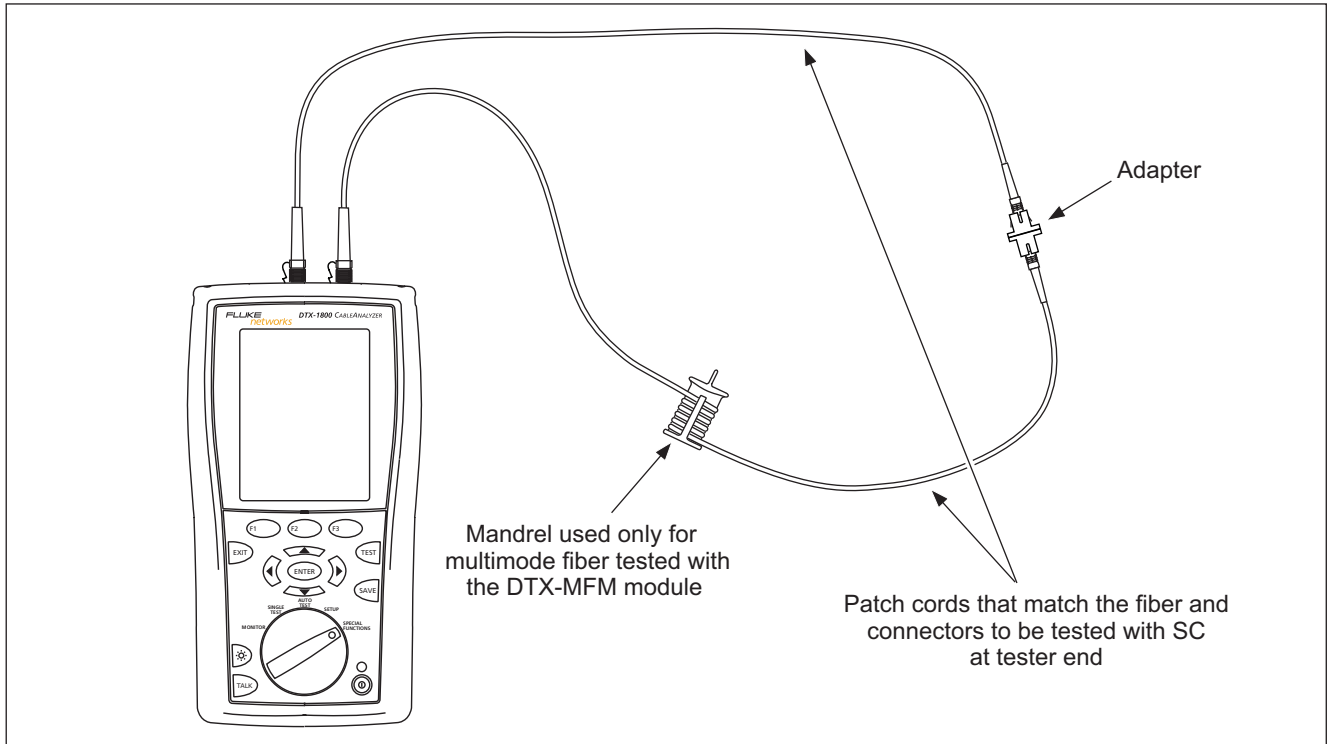

Figure 9. Loopback Mode Reference Connections (Modified Method B)
- 4 The **Set Reference** screen shows connections for the test method you selected. Figure 9 shows connections for Method B. Clean the connectors on the tester and patch cords, connect the tester's INPUT and OUTPUT ports; then press .